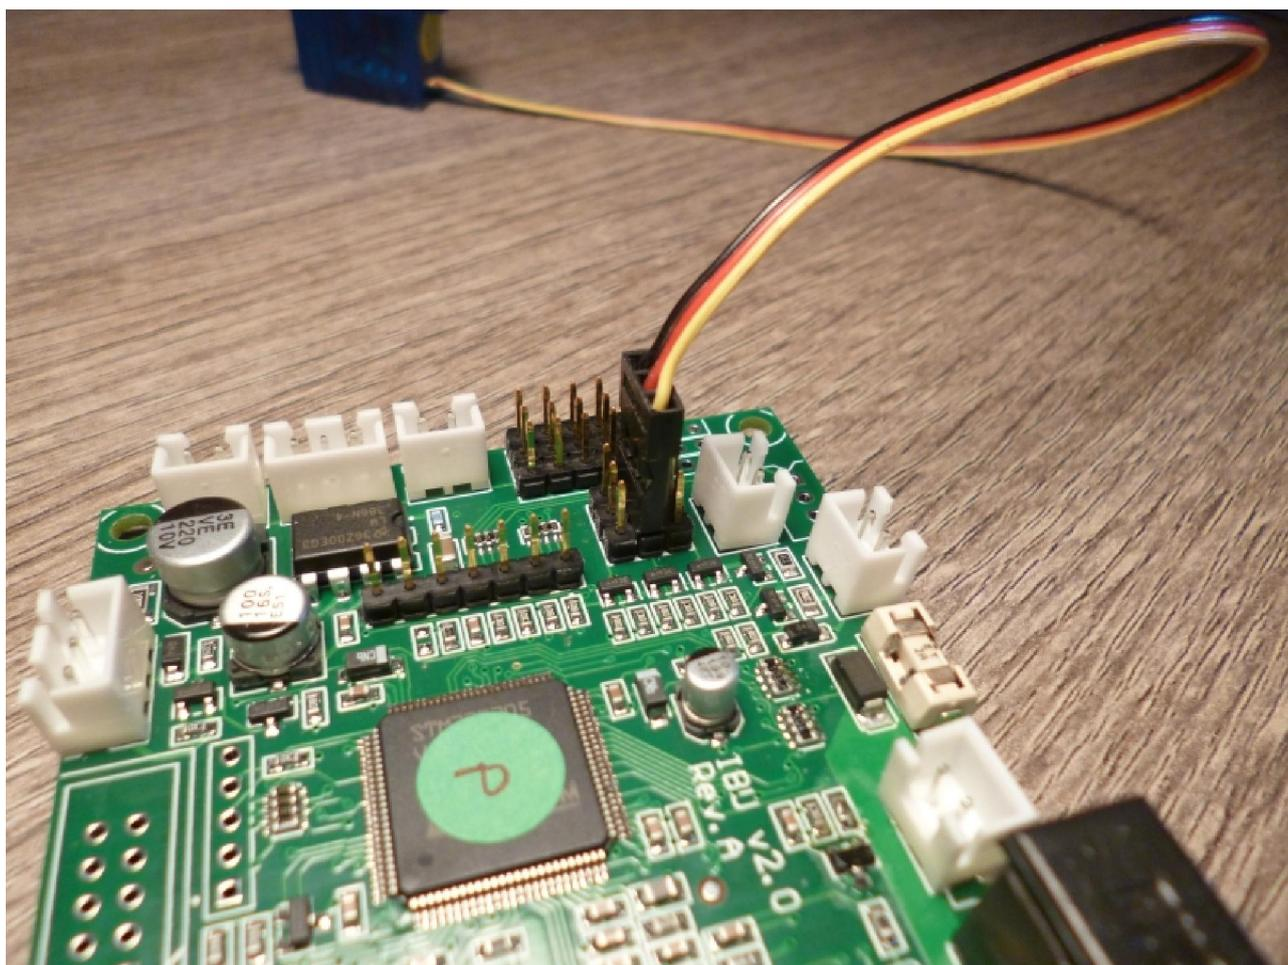

Fig. 4b – Traverse servo plug connected
- Fig. 4b **Traverse servo plug connection**